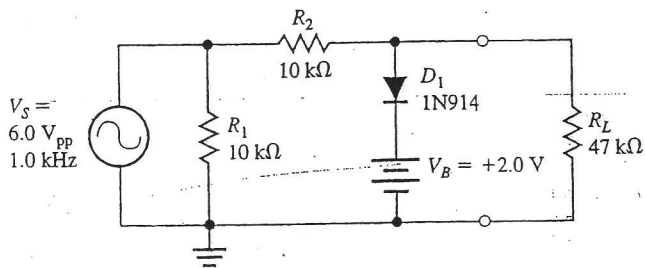

Figure 33-5
- Remove the cathode of the diode from ground and connect it to the power supply as shown in Figure 33-5. Vary the voltage from the supply and describe the results.
4. Reverse the diode in the circuit of Figure 33-5. Vary the dc voltage and describe the results.